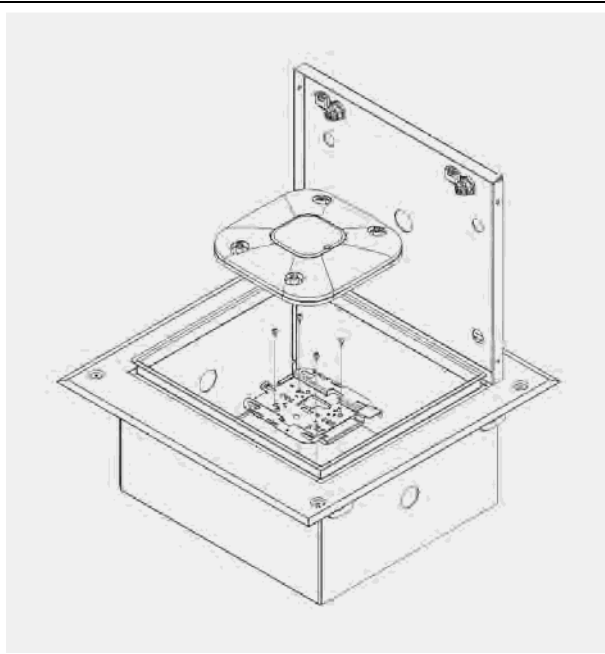

Figure 1
**Step 2a – (For Cisco AP's Only)** The mounting holes for Cisco AP's are located in the mounting plate. Standard Cisco mounting brackets as well as "Bracket 2" can be attached so the "Cisco" logo of the AP is parallel to the hinge. For "Bracket 1" the logo of the AP will be mounted perpendicular to the hinge. Securely fasten the *access point's mounting plate* to the mounting holes on the mounting plate of the enclosure using four (4) # 8 screws. Attach the *Access Point* to the mounting plate (Figure 1).